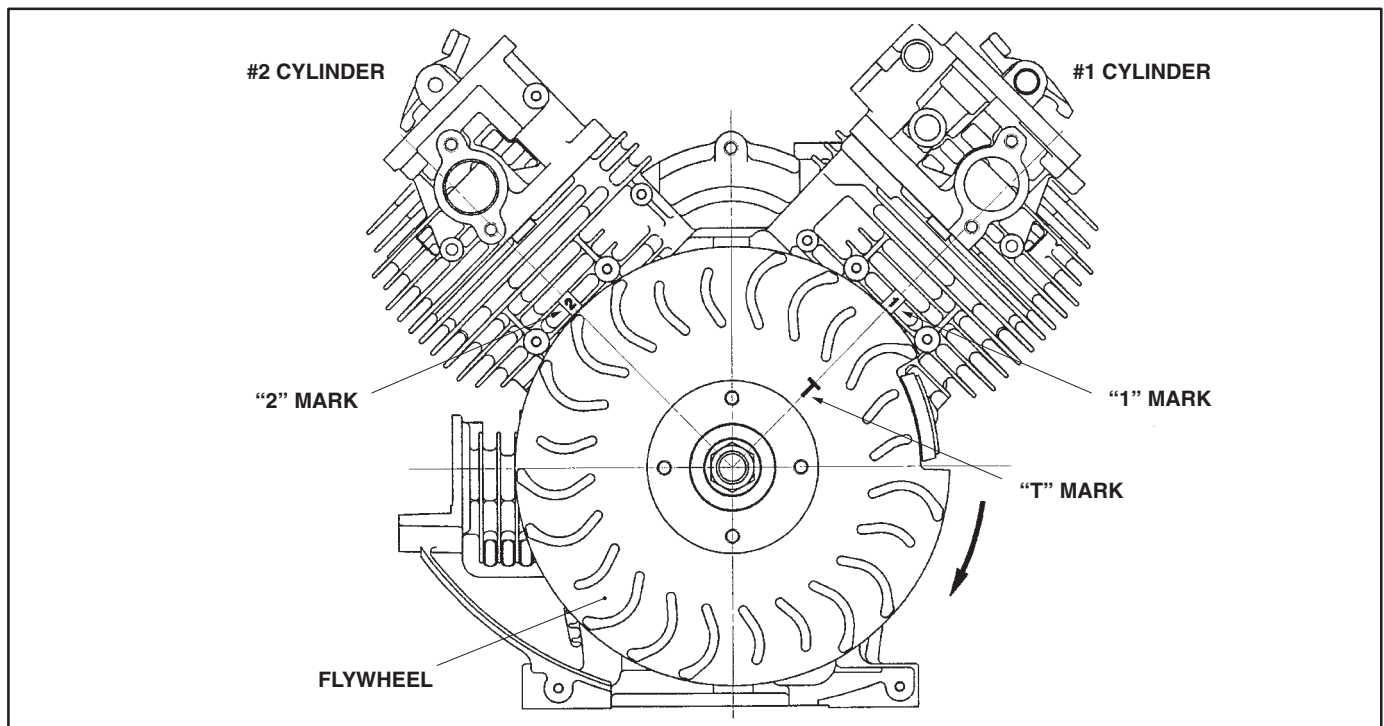

FIGURE 6-11.
1. Rotate crankshaft clockwise to the TDC (top dead center) of compression stroke by matching the "T" mark on the flywheel with the "1" mark on #1 cylinder head (Figure 6-11).